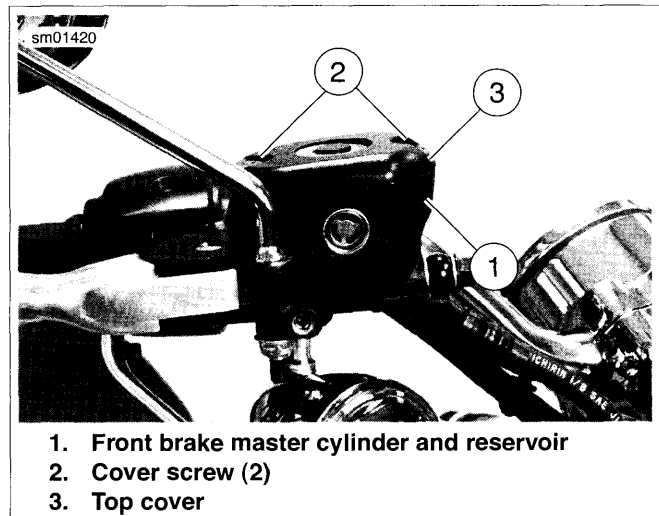

Figure 1-9. Front Brake Master Cylinder Reservoir (typical; XL model shown)
1. See Figure 1-9. Position motorcycle so that top of front master cylinder reservoir (1) is level.